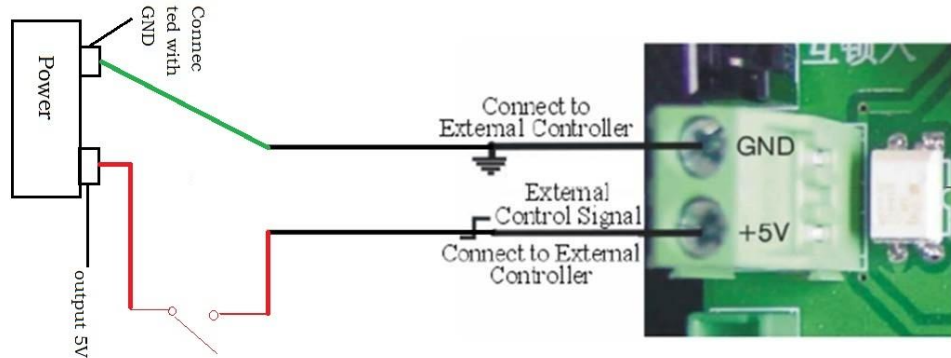

Figure 3-10 Remote Handling Schematic.
* **Function:** Online TDS meter monitor, PLC or computer to control the regeneration schedule. When the controller receives a contact closure from one of the above instruments, regeneration begins. Refer to Figure 3-10.